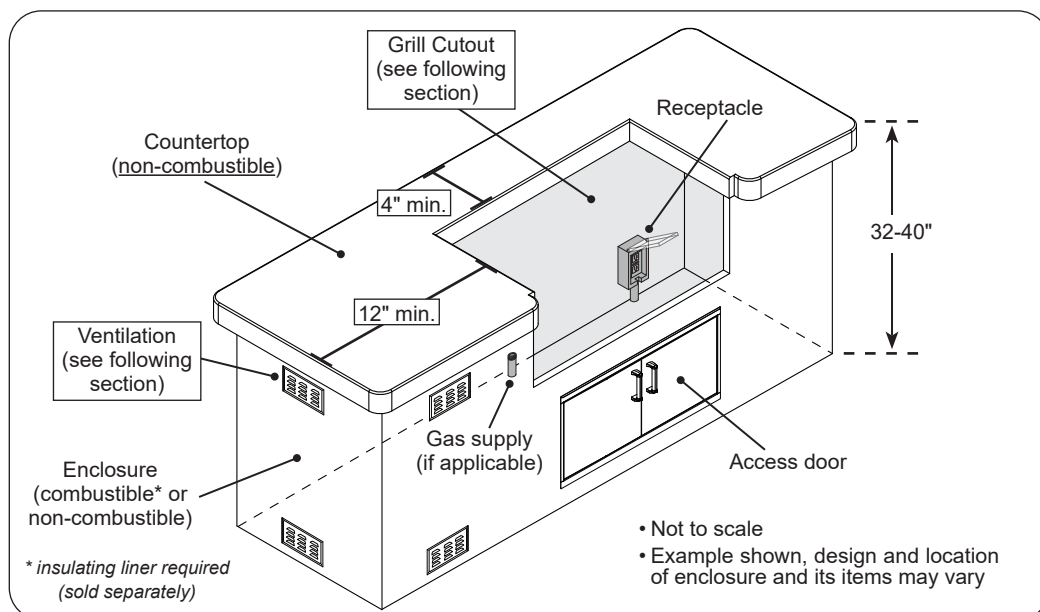

Fig. 8-1 Enclosure specifications
The enclosure can be constructed according to your individual preference, while following all guidelines found in this manual. **The enclosure MUST (see Fig. 8-1):**
- have the minimum dimensions specified in Fig. 8-1
- meet all requirements found in Fig. 8-1 and the following sections